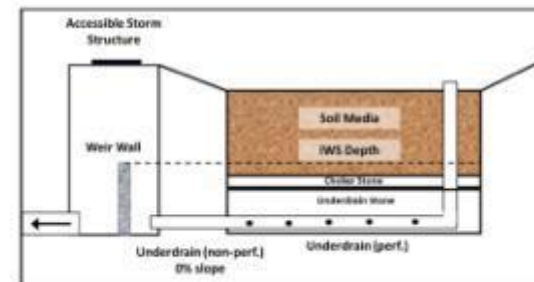

Figure IWS-2. Weir Wall in Storm Structure
2. In lieu of the weir wall, the underdrain outlet in the structure could be fitted with a simple L-fitting and non-perforated vertical extension of the underdrain (open at the top). As with the weir wall, the length of the extension corresponds to the intended IWS depth. This option is sometimes referred to as the "upturned elbow" (Figure IWS-2).